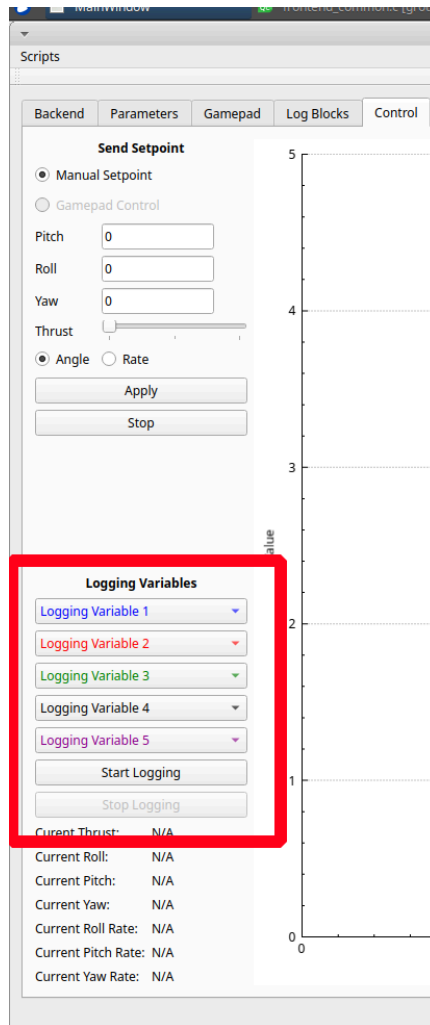

Figure 8. Logging variables
3. On the sidebar, you can specify up to 5 variables from **active** logging blocks to plot on the right, as shown in Figure 8.